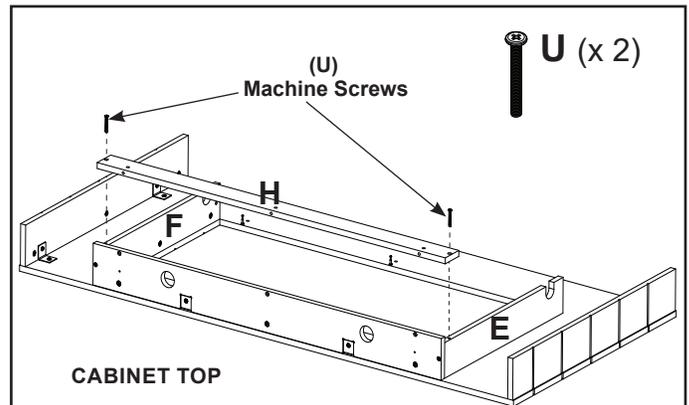

Figure 19
- Secure part "H" to parts "E" and "F" using M6 x 45 Machine Screws (U). See Figure 19.
- Align part "I" onto the three (3) Cam Pins (P) installed in part "A". See Figure 19.